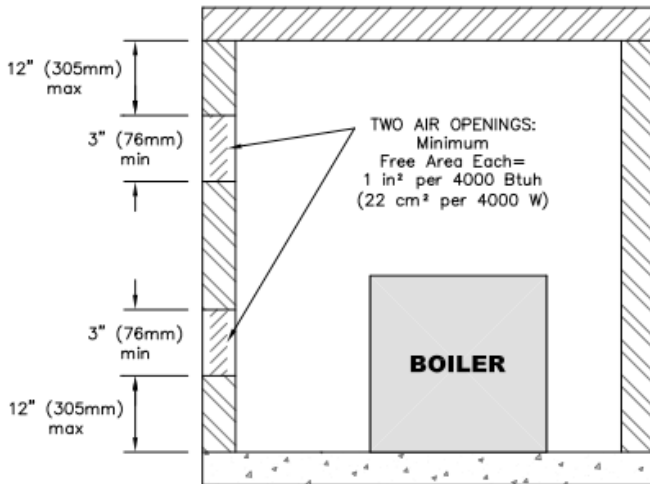
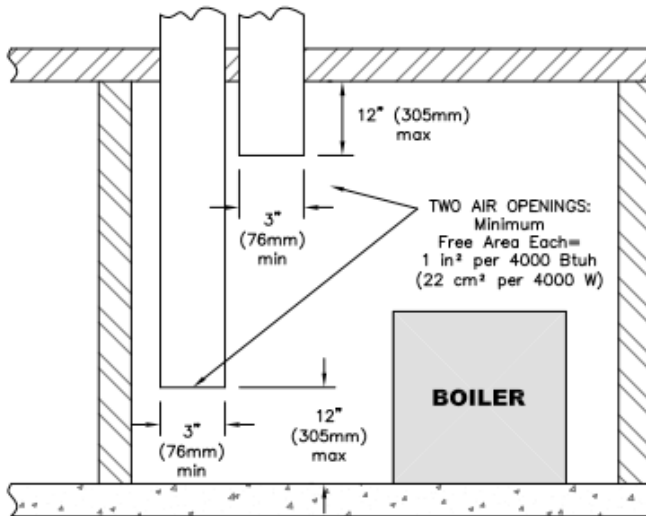

Figure 1.4: Air Openings - All Air Directly from Outdoors
Figure 1.5: Air Openings - All Air from Outdoors through Vertical Ducts
i. Where communicating directly or through vertical ducts with the outdoors each opening shall have a minimum free area of 1 in² per 4000 Btu/hr (22 cm² per 4000 W) of total input rating for all equipment in the space. See Figure 1.4 for openings directly communicating with the outdoors or Figure 1.5 for openings connected by ducts to the outdoors.